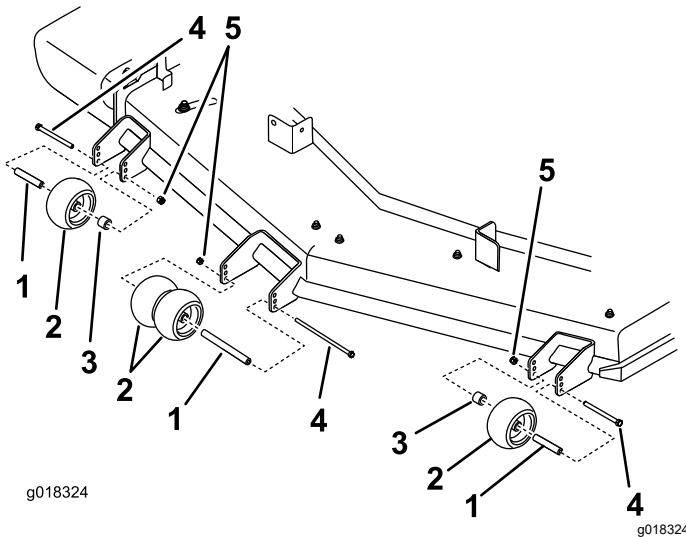

Figure 20
4. Ensure that the spacers and bushings are installed (Figure 20).